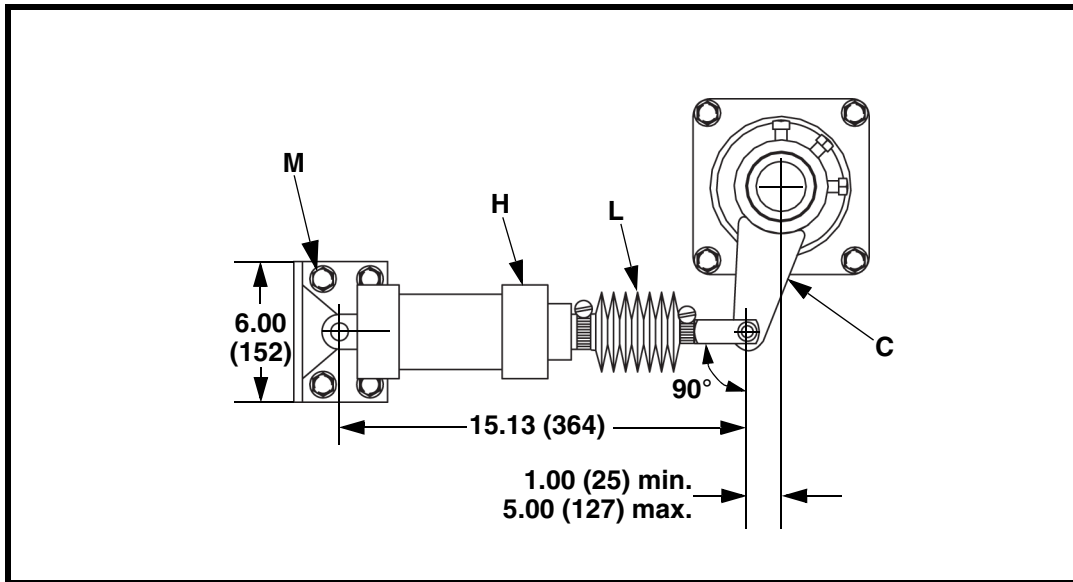

Figure 16. Air Tensioner Mounting Dimensions
6. Make sure the distance between the mainframe vertical center line and the force arm clevis pin vertical center line is between 1 and 5 in. (25 and 127 mm) as shown in Figure 16.
7. Push force arm (C) toward air cylinder (H) until sewn rod boot (L) retracts and the distance between the clevis pins on the cylinder measures 15-1/8 in. (364 mm).
9. Remove clevis pin (K) and cotter pin (J). Remove mount bracket.